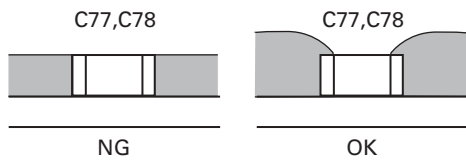

Fig. 9-2
**Note :** Use excessive solder to make it thicker than the the electrodes of the chip. (Refer to Fig. 9-2.)